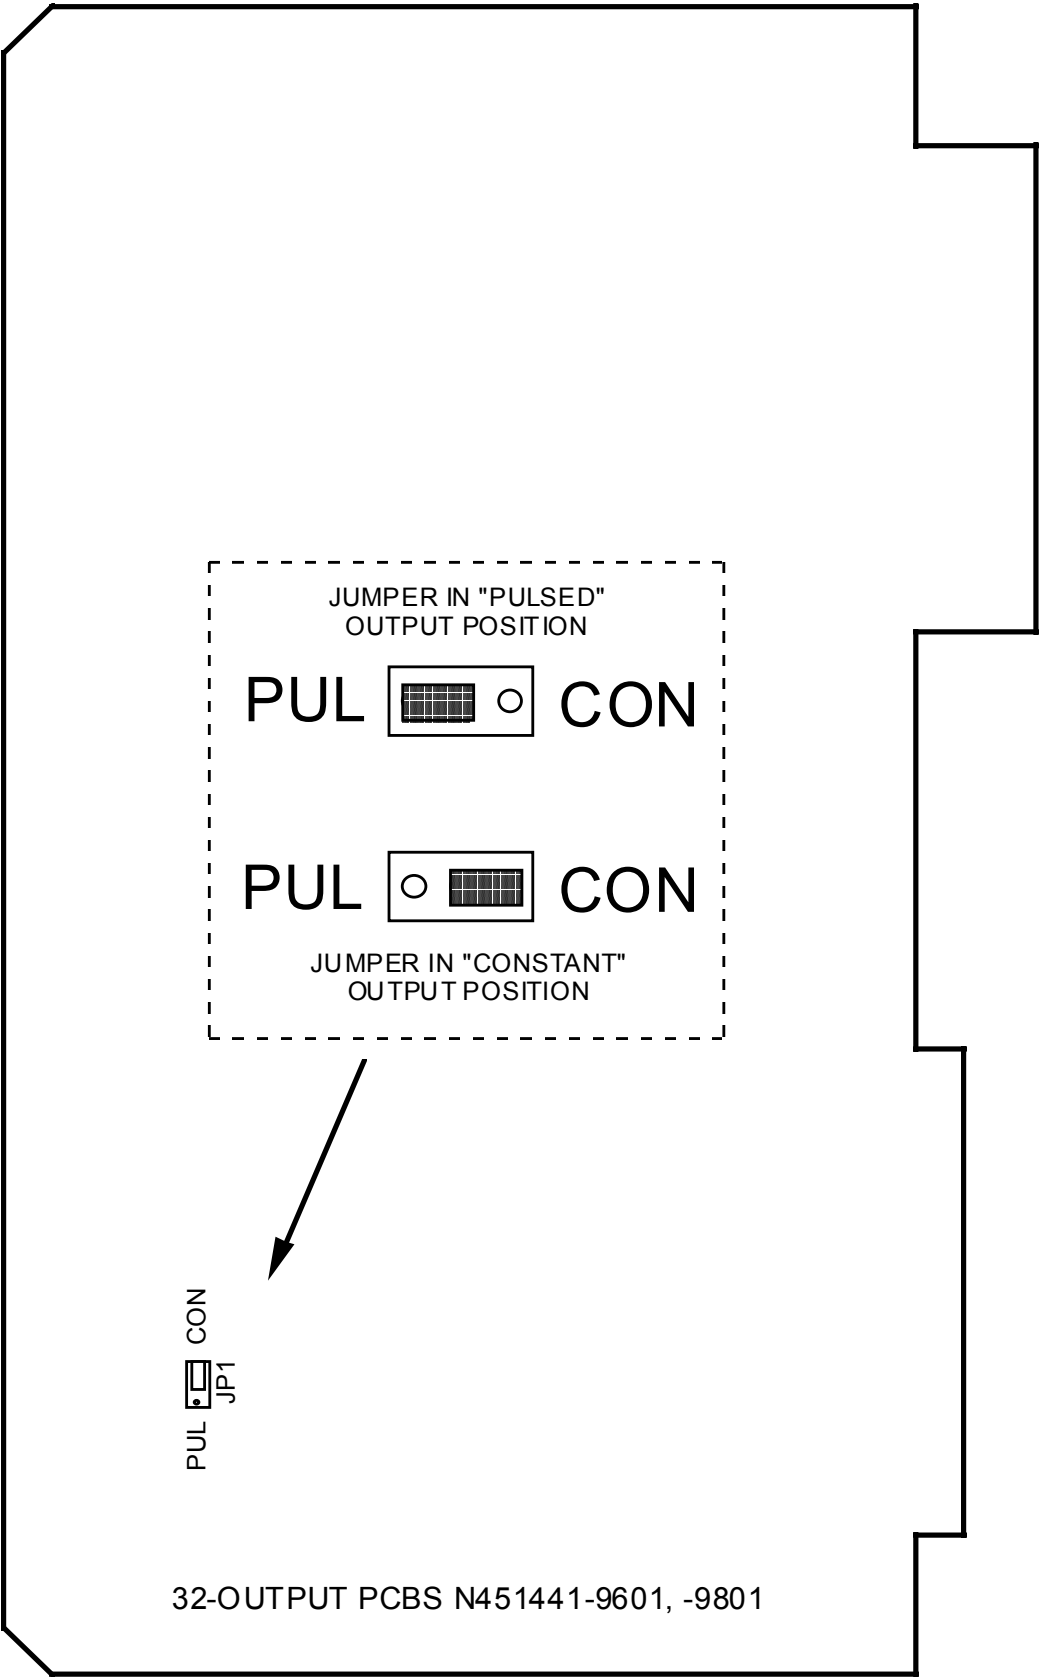

Figure 3-3. 32-Bit Output PCB - Output Mode Select Jumper
3.3.2 Pre-Installation Adjustments (Ref. Figure 3-3)